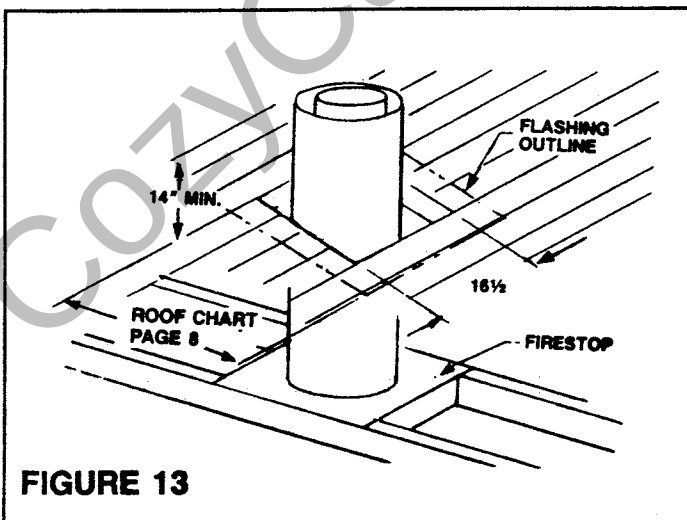

FIGURE 13
STEP 5: After cutting the hole in the roof, uncover the pipe and add sections until the chimney extends a minimum of 14 inches above the highest point of the roof cutout (Figure 13).